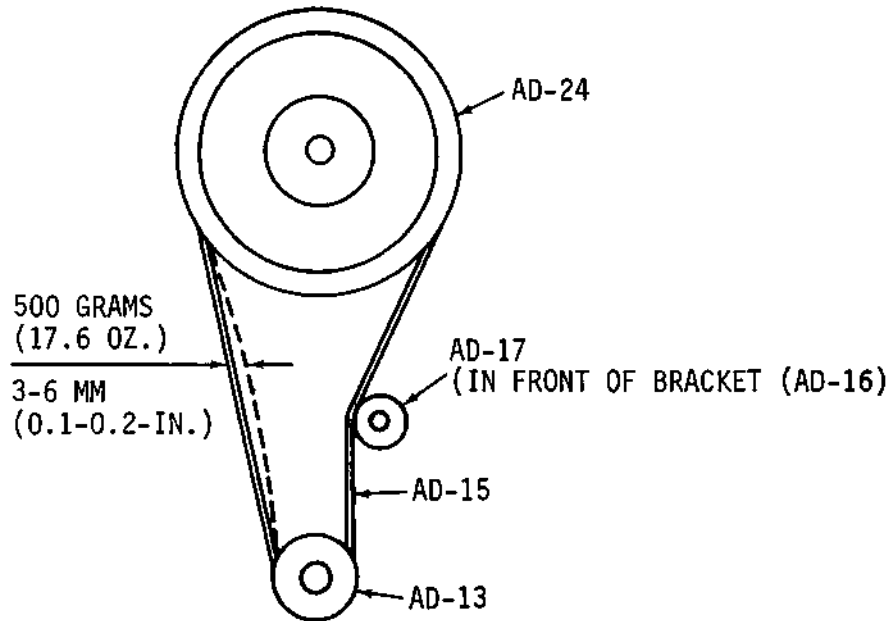

Figure 5-3. ADJUSTMENT OF TIMING BELT (AD-15)
A. MAIN MOTOR PULLEY BELT (AD-15) (REFER TO FIGURE 5-3)
2. Adjust position of tensioner (AD-17) so that movement of belt (side away from tensioner) when hand depressed with a pressure of 500 grams (17.6 oz.) travels inward to a maximum distance of 3-6 mm (0.1-0.2-in.). (Reference Figure 5-3)